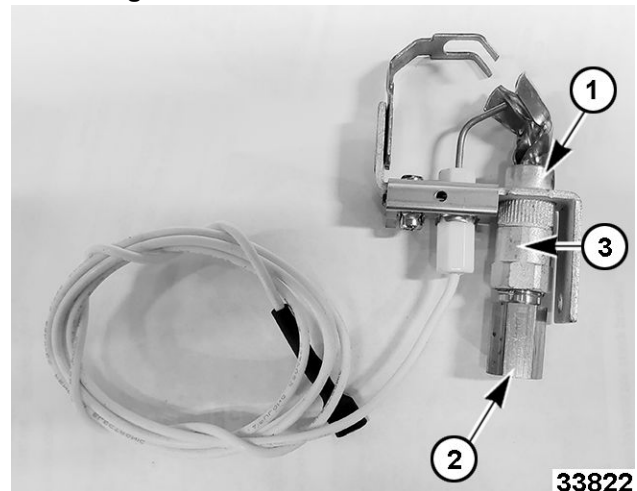

Fig. 40
2ND GENERATION PILOT BURNER SHOWN IN Fig. 40
- Item 1 in Fig. 40, pilot burner.
- Item 2 in Fig. 40, pilot orifice.
- Item 3 in Fig. 40, pilot tube compression fitting.